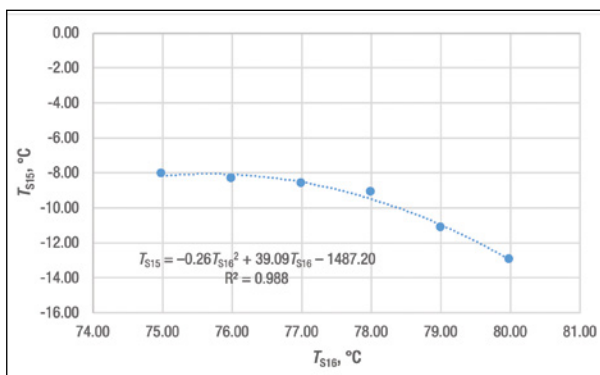

FIGURE 5. The temperatures of Streams 15 and 16 are correlated here
Scenario 2. In this scenario, the objective remains the same as in Scenario 1. However, temperature for Stream 2 (T_{S2}) is set to be 5°C above the actual restriction, which is 155°C . This is because the increase of CR values increases the product mass flowrate of Stream 5 (see Figure 5), which generates higher income. Therefore, a new constraint is added as in Equation (8):
Note also that T_{S15} depends on the Stream 16 temperature (TS16), as shown in Figure 5. The simulation results indicate that their correlation may be given as in Equation (10):